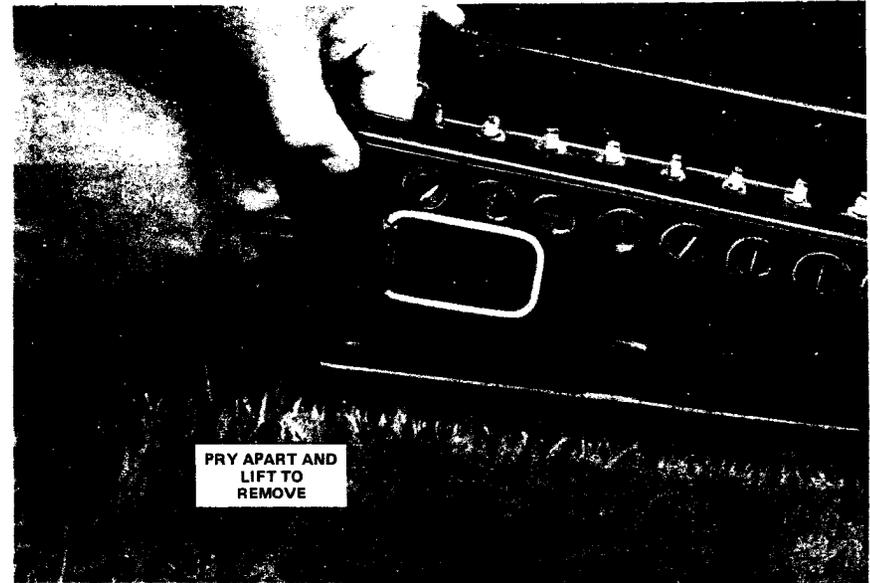

Fig. 16—Installing Terminal Panel Assembly (105A-Type Cable Terminal With Soft Boots)
4.02 Open the hinged cover on the cable terminal by pulling on the finger tab(s). Separate the terminal panel assembly from the housing assembly by prying apart at the bottom edge (Fig. 16).